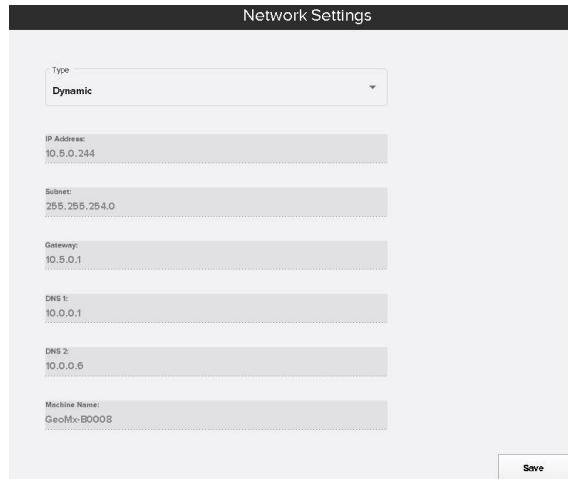

Figure 79: Network tab under Administration
The Network tab allows you to adjust network settings (see Figure 79). Select **Dynamic** or **Static IP Address** from the drop-down menu.
7. Browse to <https://geomx-#####> where ##### is the GeoMx **Machine Name** you noted from the Network Settings window. In the example (see Figure 79), the address would be <https://geomx-B0008>.
8. If this does not work, your network may not pass on the GeoMx instrument name. In this case, enter the direct IP address. In the example (see Figure 79), the address would be <https://10.5.0.244>.